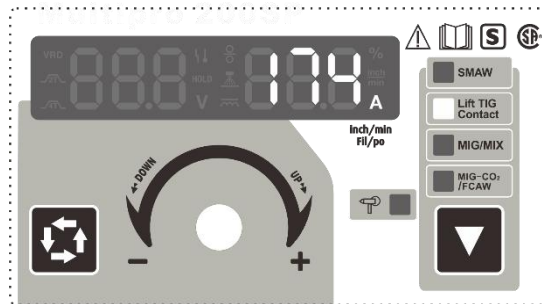

Fig.9 LIFT TIG Mode
- ① After making sure the torch is not operating, press the **Function Switch Key** to select the **LIFT TIG** mode. The LIFT TIG indicator will light up when the machine enters into **LIFT TIG** mode (**Fig.9**).